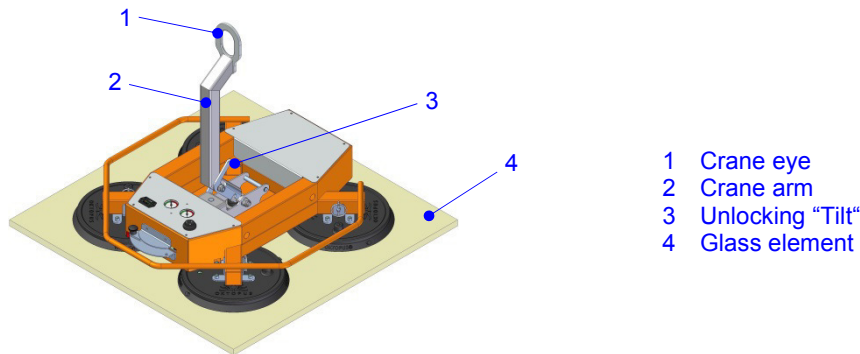

Fig. 7: OKTOPUS® GLASS-Jack GL-N 400/300 with horizontal glass element
- ⇒ Disengage unlocking “Tilt” (see fig. 7) and move the crane with the attached OKTOPUS® GLASS-Jack GL-N 400/300 to the elements. Position the suction pads parallel to the suction area of the load by the tilting the suction frame, by driving and lifting movements of the crane as well as manual guidance.